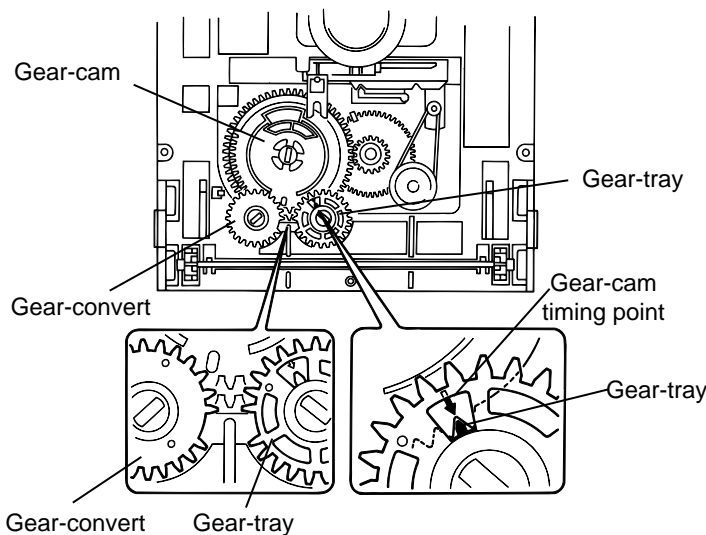

Fig.3
■ Reinstall the CD tray (See Fig.3 and 4)
1. Align the gear-cam with the gear-tray as shown fig.3, then mount the CD tray.